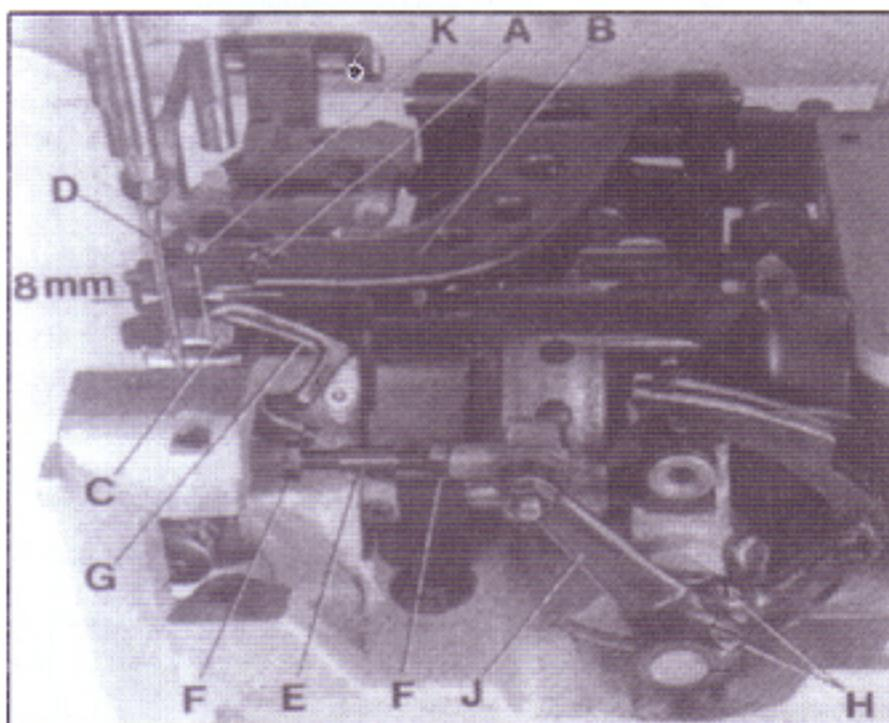
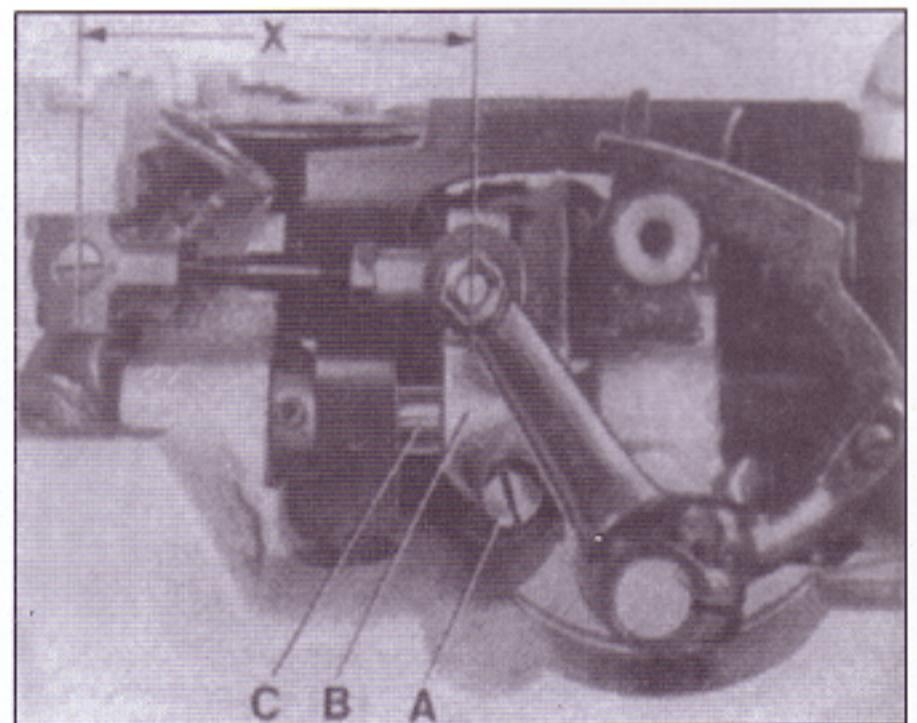
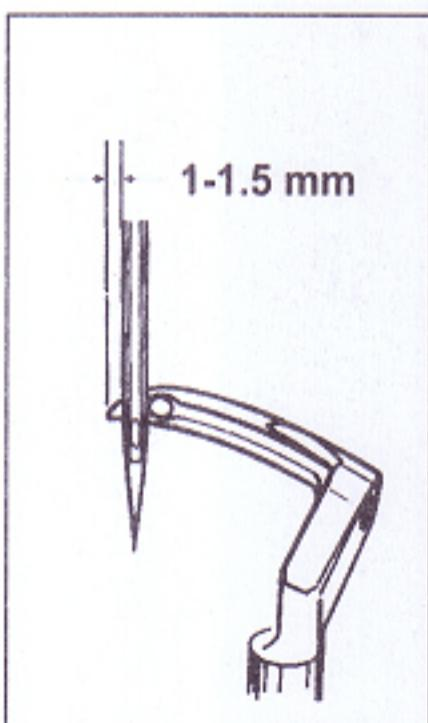
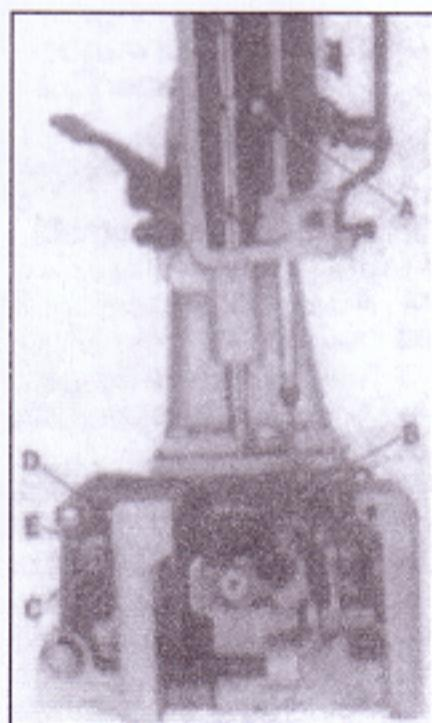

Fig. 2
Fig. 3
Fig. 4
Fig. 5
Remove the feed roller, throat plate and feed dog and also the needle guard for convenient access to the machine. On styles 81200S and SM, loosen the screw (A, Fig. 2) in the feed bar (B) and push the feed bar needle guard (C) to the rear to avoid its contacting the needle (D).
For the styles 81200S/SM, set the looper connecting rod (E) so the distance (X, Fig. 3) between the center lines of the two ball joints is 69.8mm (2 3/4"). The
dimension (X, Fig. 3) should be 68.3mm (2 11/16) on the single thread chain stitch style 80800D. For adjustment loosen the two nuts (F, Fig. 2) and turn connecting rod (E) forward or backward as required to obtain specified dimension, retighten nuts (F).
Rotate the machine pulley in operating direction so that the looper moves from right to left. The looper point should pass as close as possible to the back of the needle without contacting 0.08 to 0.13 mm (.003 to .005") clearance. For adjustment loosen screws (A, Fig. 3) in the looper eccentric fork (B) and turn looper rocker shaft (C) on the looper rocker forward or backward as required. Retighten screw (A).
Remove the face cover on machine arm. Rotate machine pulley in operating direction until the looper point, moving to the left, projects 1 to 1.5 mm (.040" to .060") left of the needle (see Fig. 4). Lower edge of looper and upper edge of needle eye must be flush in this position. If adjustment is necessary, loosen clamp screw (A, Fig. 5) in the needle bar connection and move the needle bar up or down, as required. Retighten screw (A) and remount face cover.
At highest point of feed dog travel, the feed dog (B, Fig. 5) should be set so, that the rear teeth project their full depth above the throat plate surface. For setting remove the feed dog and adjust the supporting screw (K, Fig. 2) on the top of the feed bar to the required height. Remount the feed dog, and on styles 80800H and HA also the needle guard.
On styles 81200S and SM stud (C, Fig. 5) for changing
The length of the stitch can be adjusted by raising or lowering the stud (C, Fig. 5) in the segment slot of the feed rocker (D). Lowering stud (C) will lengthen the stitch. After loosening nut (E) stud (C) can be moved accordingly. When the desired stitch length is obtained, retighten nut (E). Remount housing for cutter and rear cloth plate on styles 80800H and HA.
The needle guard (C, Fig. 2) has to be set so, that it just contacts the needle at its most forward point of travel, without deflecting it.
On styles 81200S/SM loosen screw (A, Fig. 2) in the feed bar (B) and adjust the needle guard (C) accordingly. Retighten screw (A).